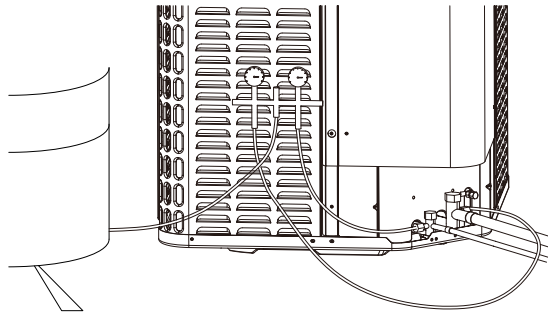

Figure 15-5
- Connect gauges to refrigerant bottle and unit as illustrated (Fig. 15-5).